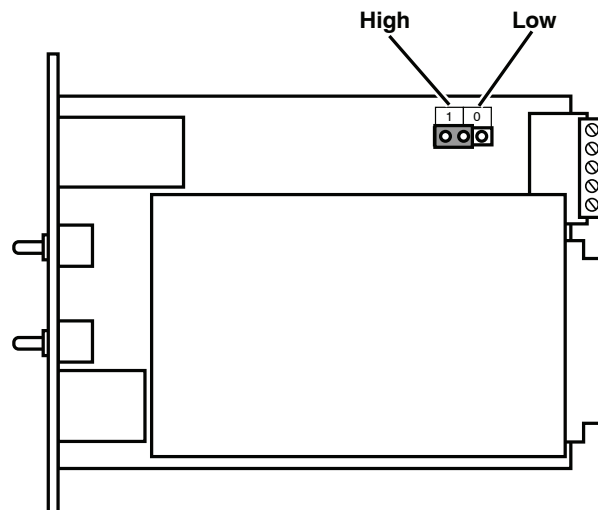

Figure 6.2: Control Module Jumper
1. **Control Card Jumper Setting:** Set the Jumper to the “0” position. This will set the non-active, non-alarm signal state to “Low” as shown in Figure 6.2.